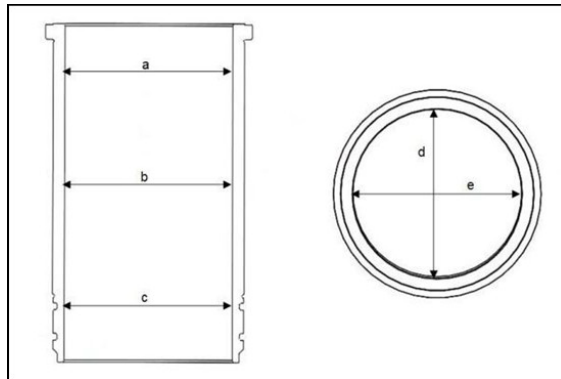

Figure 118.
3. Take measurements at three places (Figure 118) (a, b, c), and in two directions (d and e) in each cylinder liner.